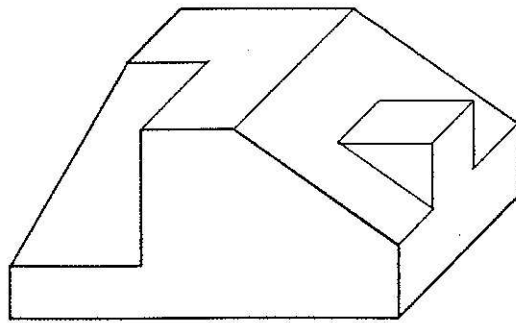

Figure 1
- 10 Figure 1 shows an oblique drawing of a block.